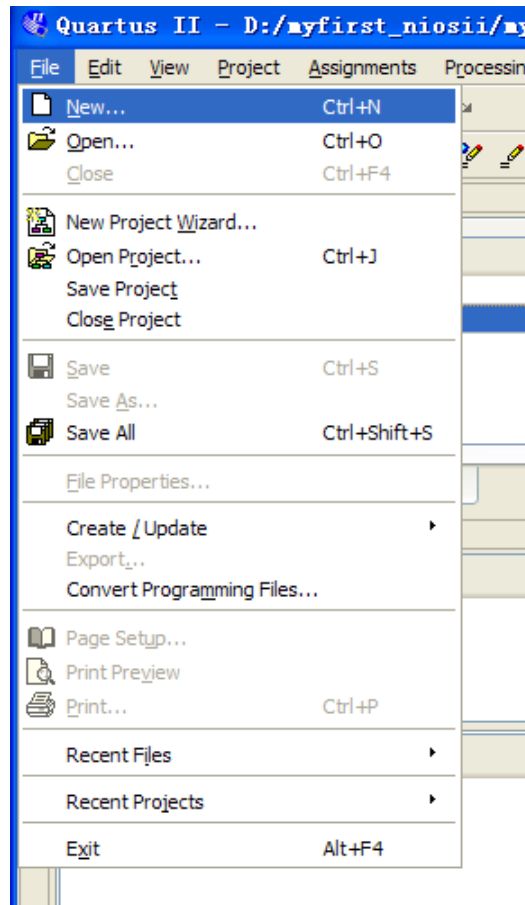

Figure 7-40 New Verilog file
25. Create a new Verilog HDL file, by selecting **File > New, Verilog HDL File** and click **OK**, as shown in **Figure 7-40** and **Figure 7-41**.